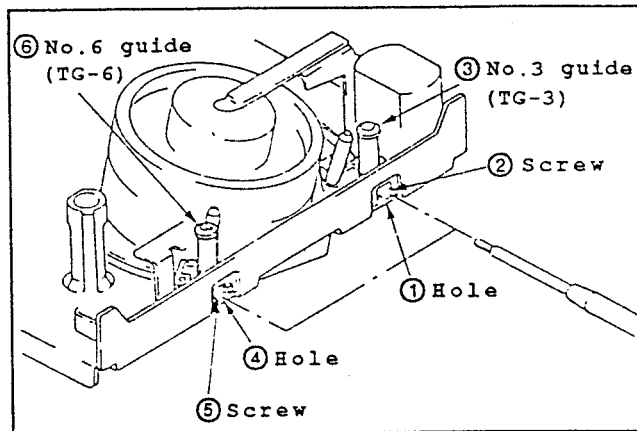

Fig.II-34
#### 4-2 Tracking Adjustment (Fig.II-34)
- (1) Referring to the service manuals for each system, set it to the track shift made. (70 %)
- (2) Confirm that the waveform is flat. If not, turn No.3 and 6 guides to make it flat.
- (3) Tighten the screw ② of No.3 guide to lock it. At this time, confirm that the inlet side of waveform is not changed. (Fig.II-34)
- (4) Tighten the screw ⑤ of No.6 guide to lock it. At this time, confirm that the outlet side of waveform is not changed. (Fig.II-34)